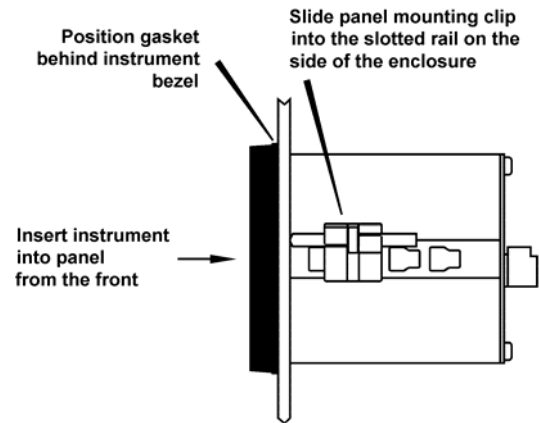

Fig 5 Fitting panel mounting clips
- Fix two panel mounting clips to opposite sides of the instrument enclosure and tighten until the indicator is secure as shown in Fig 5. Four clips are required to achieve an IP65 seal between a BA308C enclosure and the instrument panel.